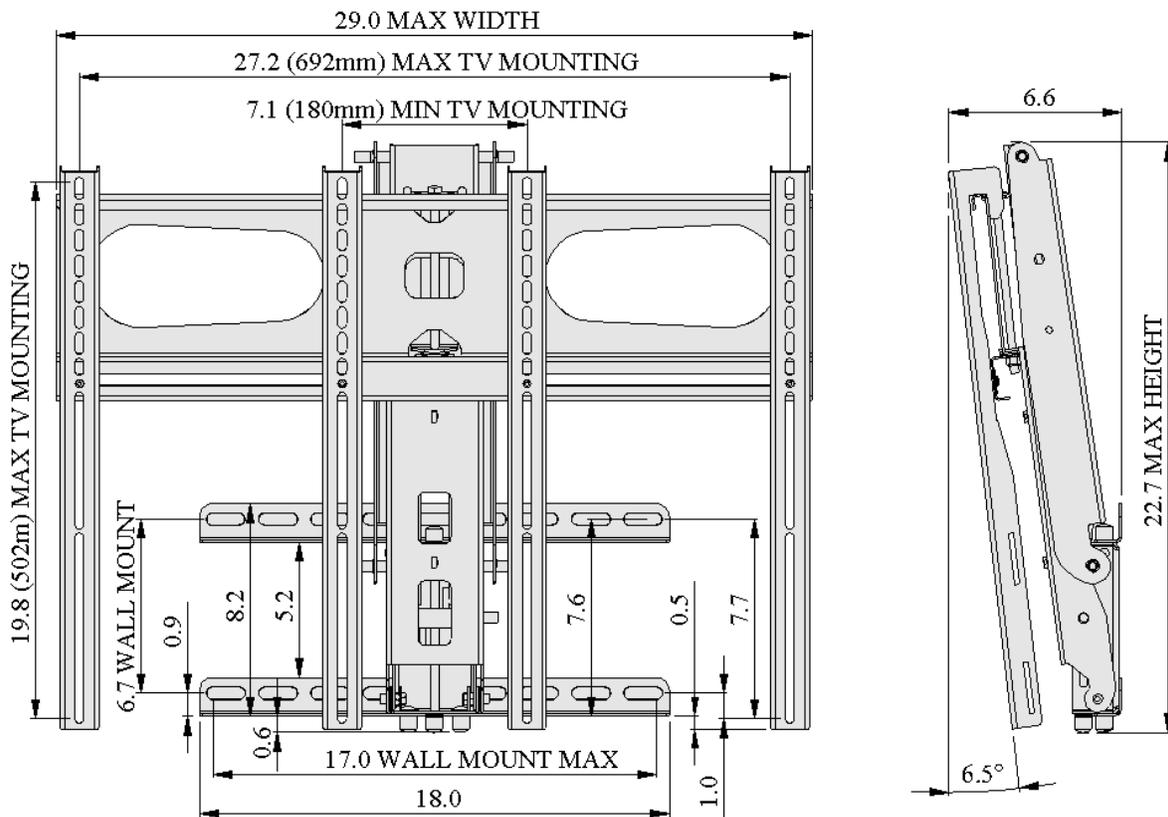
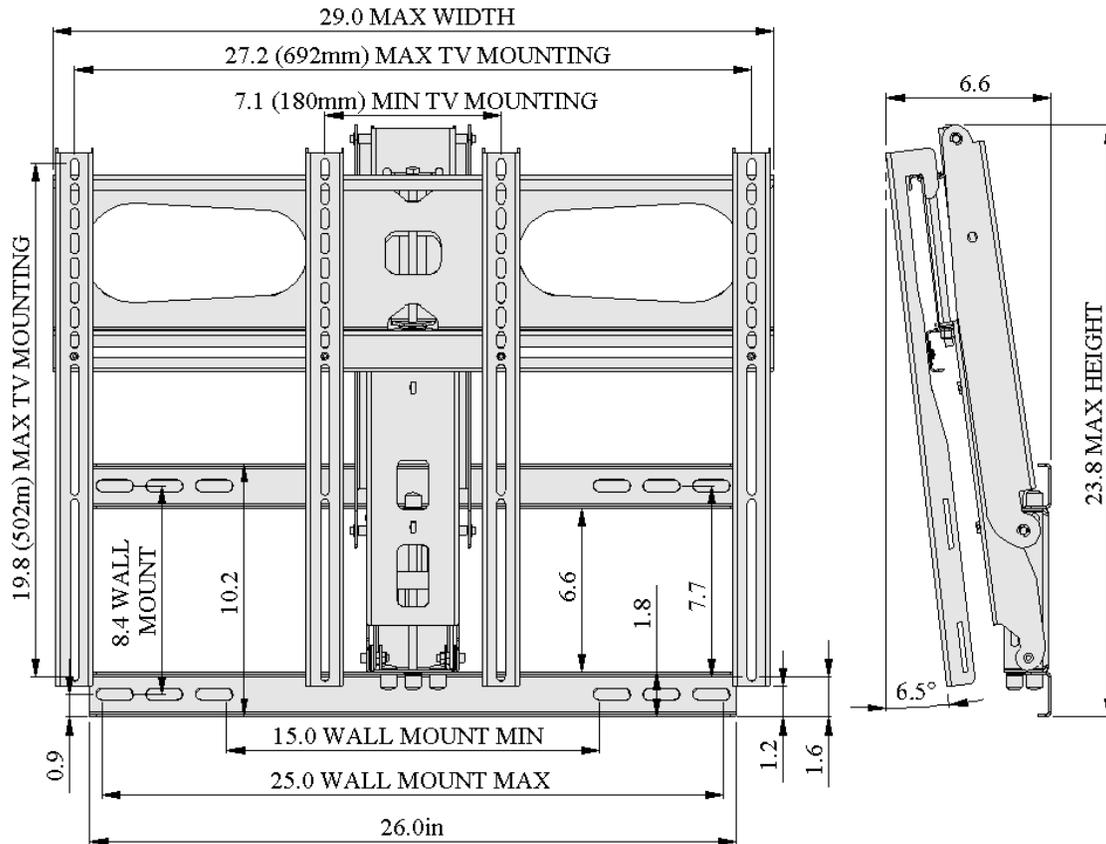
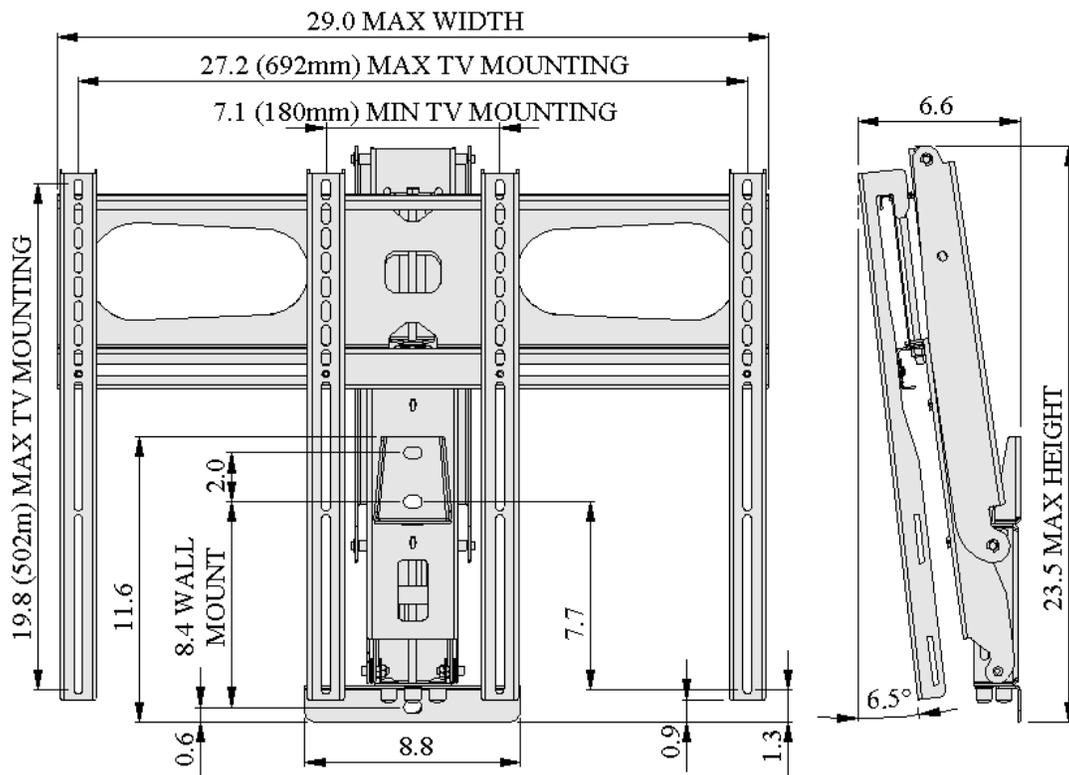

Figure 2, 16in Mount Overall Size
Figure 3, 24in Mount Dimensions when in Top Position
Figure 4, Single Stud Mount Overall Size
- **Note for smaller televisions;** the mount may be wider or taller than the television. If this is the case then the mount may be visible in the top position. See Figure 2, Figure 3, or Figure 4.
- Allowable television mounting pattern: 7.1in (180mm) to 27.2in (692mm) wide, up to 19.8in (502mm) high. Works with all VESA patterns in that range, See Figure 2, Figure 3, or Figure 4.
- Product Dimensions: See Figure 2, Figure 3, or Figure 4, depends on the wall mounting configuration.